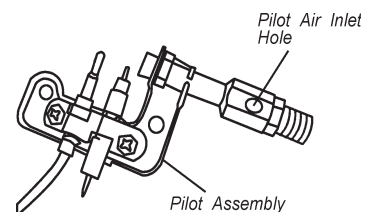

Figure 18 - Pilot Inlet Air Hole
3. Blow air through the ports/slots and holes in the burner. Also clean the pilot assembly. A yellow tip on the pilot flame indicates dust and dirt in the pilot assembly. There is a small pilot air inlet hole about two inches from where the pilot flame comes out of the pilot assembly (see Figure 18). With the unit off, lightly blow air through the air inlet hole. You may blow through a drinking straw if compressed air is not available.